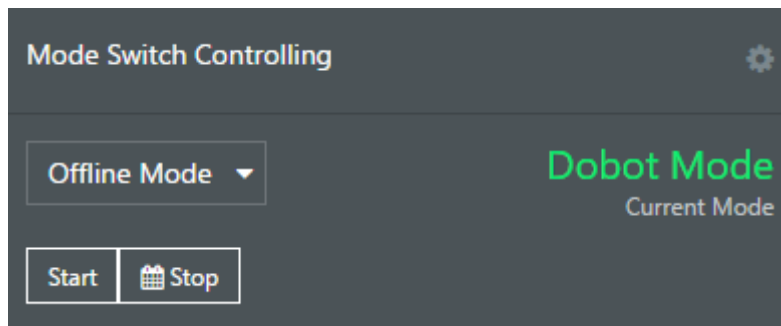

Figure 6.37 Status of Dobot M1
Step 10 Select **Offline Mode** from the drop-down list on the **Mode Switch Controlling** pane of the **Home** page, and click **Start** to make the Dobot M1 in the **Offline Mode** status, as shown in Figure 6.37. The Dobot M1 is disconnected from the M1Studio, and Dobot M1 can be running according to the files that are in the offline mode.